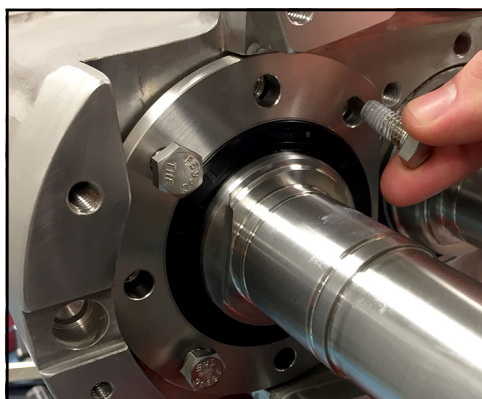

Figure 156 - Loosen and remove bearing retainer bolts
1. Loosen and remove the bearing retainer bolts as shown in Figure 156.